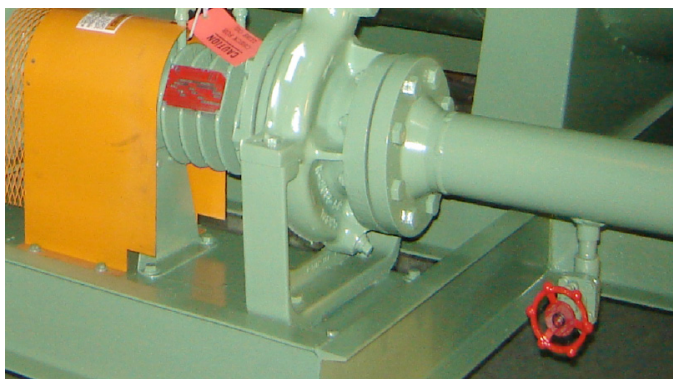

FIGURE 7 - DRAIN AND FILL CONNECTION
The system is usually filled from the lowest point with the aid of a pump. On skid-mounted units, a drain and fill connection is provided in the inlet piping to the pump. See Figure 7.
1. Refer to Figure 7 for the drain and fill connection.